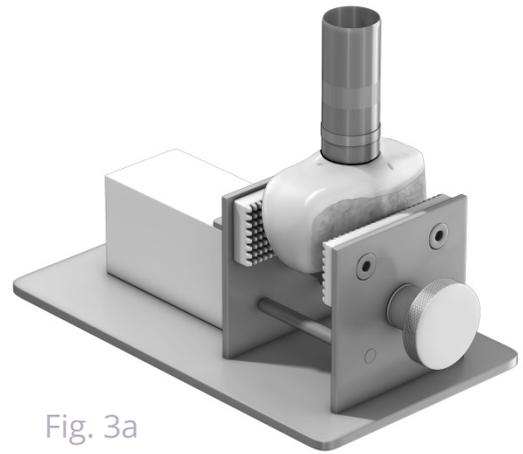

Fig. 3a
**Step 9:** Reset the cutter/guide inside the ring guide on the allograft. By hand, rotate the cutter/guide until the complete thickness of the articular cartilage is cut and the instrument is against cortical bone. (Fig. 3a)